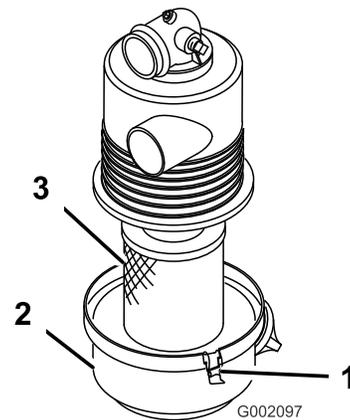

Figure 20
1. Check the air cleaner body for damage, which could possibly cause an air leak. Ensure that the cover seals around the air-cleaner body (Figure 20).
2. Release the latches securing the air-filter cover to the air-filter housing (Figure 20).
3. Separate the air-filter cover from the air-filter housing, and clean the inside of the cover (Figure 20).
3. Insert the air-filter element into air-filter housing (Figure 20).
4. Align the air-cleaner cover with the air-cleaner housing (Figure 20).
5. Secure the cover to the housing with the latches (Figure 20).